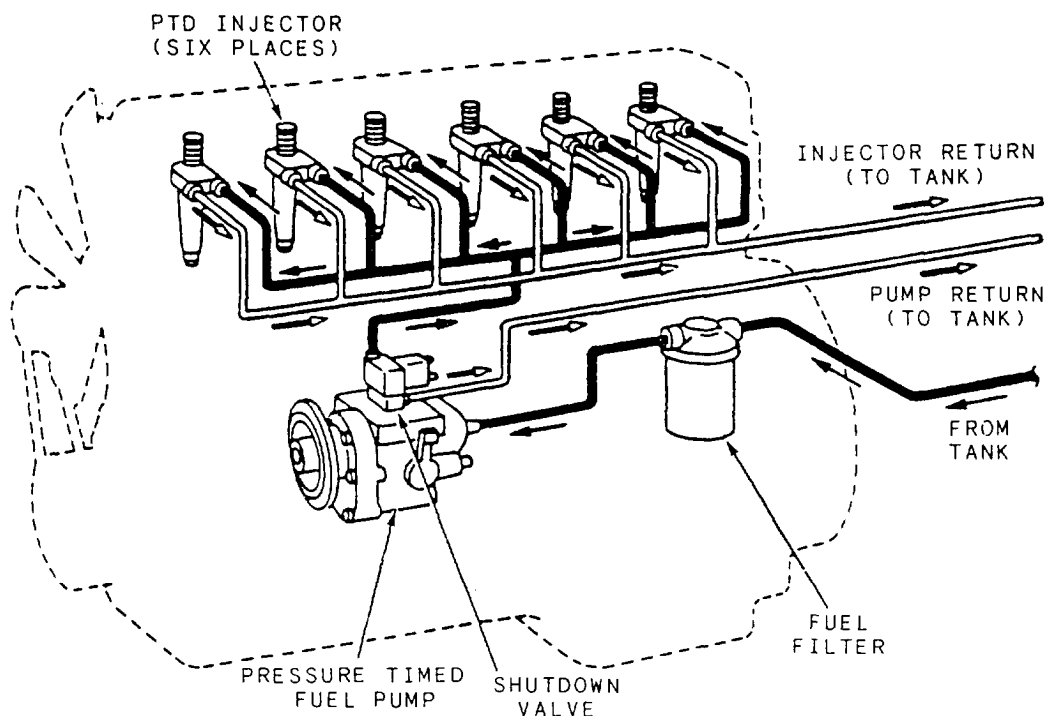

Figure 5-33. Pressure-timed injection system.
The Cummins Pressure Time (PT) Fuel Injection System (fig. 5-33) consists of the fuel pump (with governor), the supply lines, drain lines, fuel filters, fuel injectors, and shutdown valve. An aneroid valve is installed on the fuel system of turbocharged engines only.